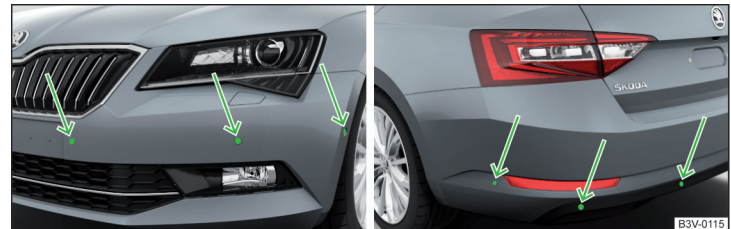

Fig. 177 Installation locations of the sensors on the left side of the vehicle: front/rear
- Keep the system sensors » Fig. 177 on page 147 clean, snow- and ice-free and do not cover with any objects of any kind, otherwise the system functioning may be impaired.
The system uses ultrasound waves to calculate the distance between the bumper and an obstacle. The ultrasonic sensors are, depending on vehicle equipment, located in the back or in the front bumper » Fig. 177.